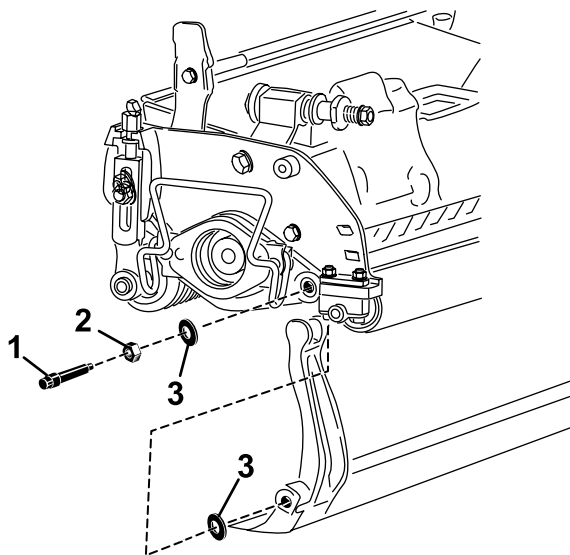

Figure 15
Account for the 2 nylon washers on each end of the bedbar (Figure 15).
- 3. Position a nylon washer on each side of the side-plate boss. Place a steel washer outside each of the nylon washers (Figure 15).